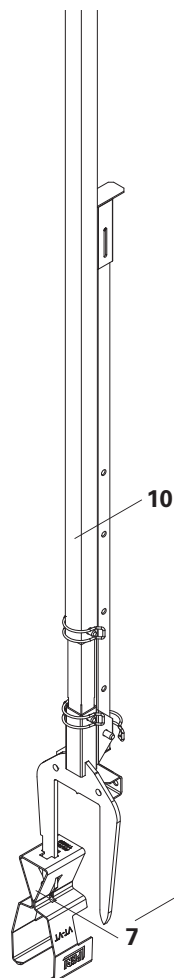
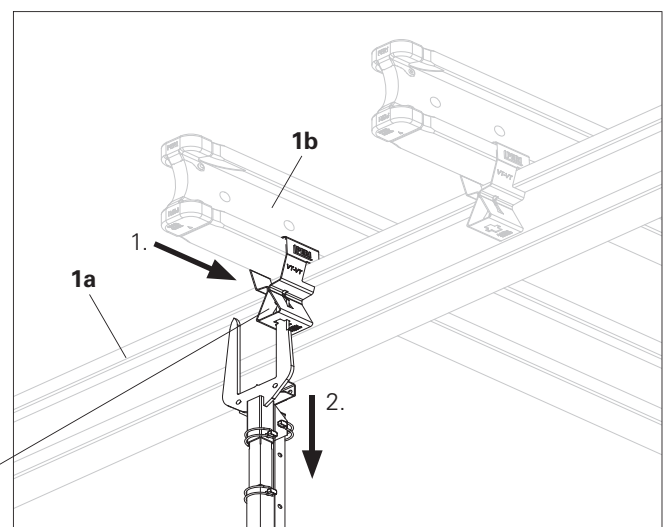

Fig. A4.09
Fig. A4.10
1. Force open the Flexclip (7) with the Distance Device MF-Plus (10). (Fig. A4.09)
3. Pull the Distance Device downwards out of the Flexclip (7).
4. The Flexclip (7) then closes thus securing the cross beam. (Fig. A4.10)